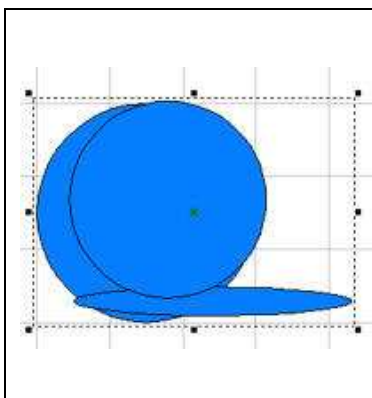
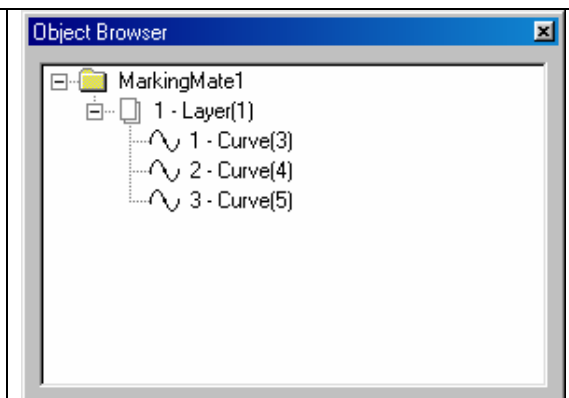

Figure 5
Figure 6
Step 1: If want to separate the combined objects, you can use “Break” function. Click “Edit – Break” from Menu Bar. All objects will go back to what they was original (as Figure 5 below), however, they are remain curve (as Figure 6 below).
Step 1: Use Ungroup function is able to break up a group object. Click “Edit – UnGroup” from Menu Bar, or click the  button from toolbar, all objects will go back to their original look (as Figure 5 below), and their object type as well (as Figure 6 below).